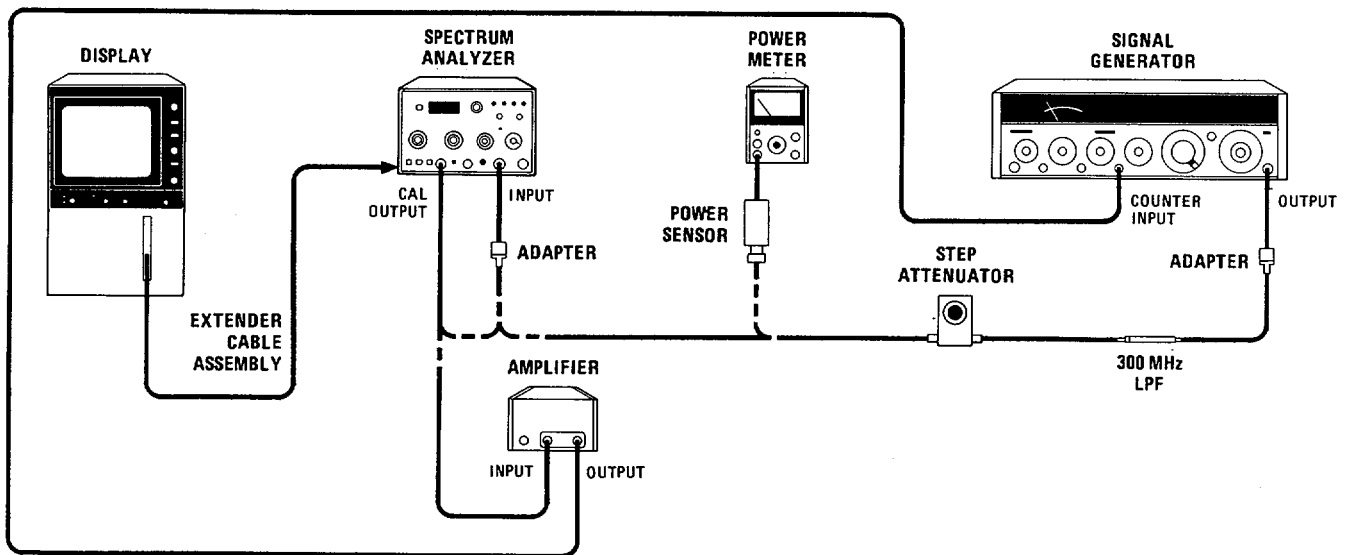

Figure 5-3. Third Converter LO and CAL OUTPUT Adjustment Test Setup
2. Connect equipment as shown in Figure 5-3. Connect CAL OUTPUT to INPUT 50(connector.
7. Connect power sensor and power meter to step attenuator as shown in Figure 5-3.